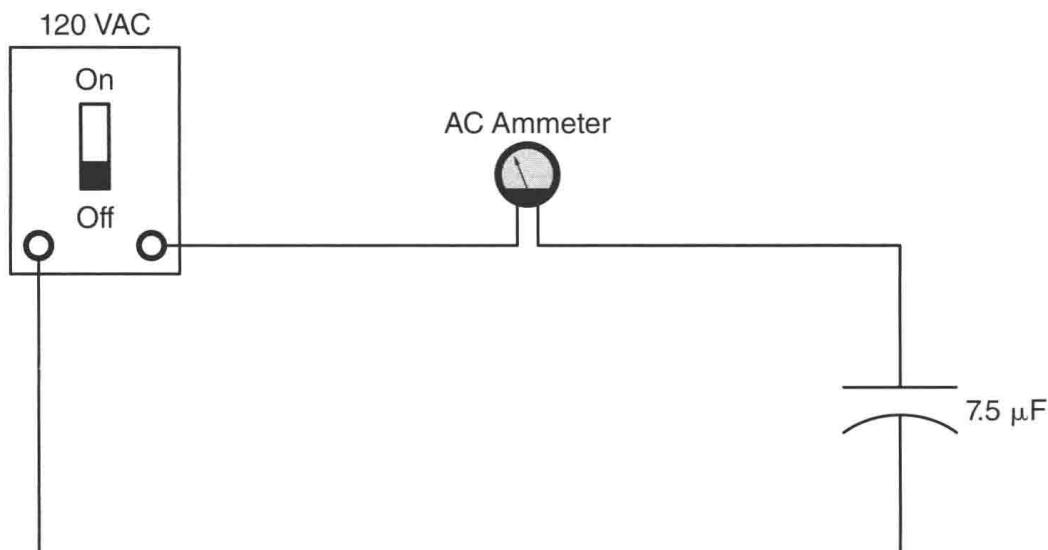

Figure 13-8 A capacitive circuit.
4. Connect the circuit shown in Figure 13-8. Turn on the power and measure the amount of current flow. Compare the measured value with the computed value. Are the two answers approximately the same?